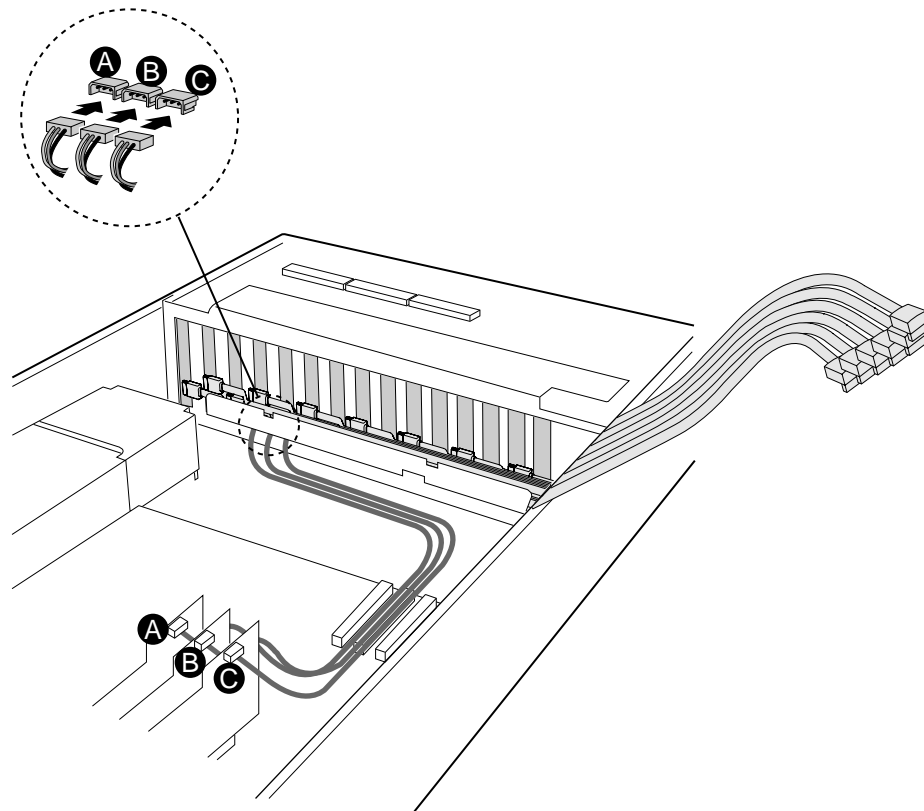

Figure 35. Installing I²C Cables
- A. Unpack the new I²C Cables that you received in your Intel[®] FMJCABLES Kit. Carefully re-connect the I²C Cable connector labeled JP4 to its header on the backplane board. Carefully re-connect I²C Cable connector labeled SL2J6 to its header in the HBA Card set. See Figure 35.
- B. Carefully re-connect the I²C Cable connector labeled JP6 to its header on the backplane board. Carefully re-connect I²C Cable connector labeled SL3J6 to its header in the HBA Card set See Figure 35.
- C. Carefully re-connect the I²C Cable connector labeled JP7 to its header on the backplane board. Carefully re-connect I²C Cable connector labeled SL4J6 to its header in the HBA Card set. Route the I²C Cables along the side of the chassis in the same way that the original I²C Cables were routed. See Figure 35.